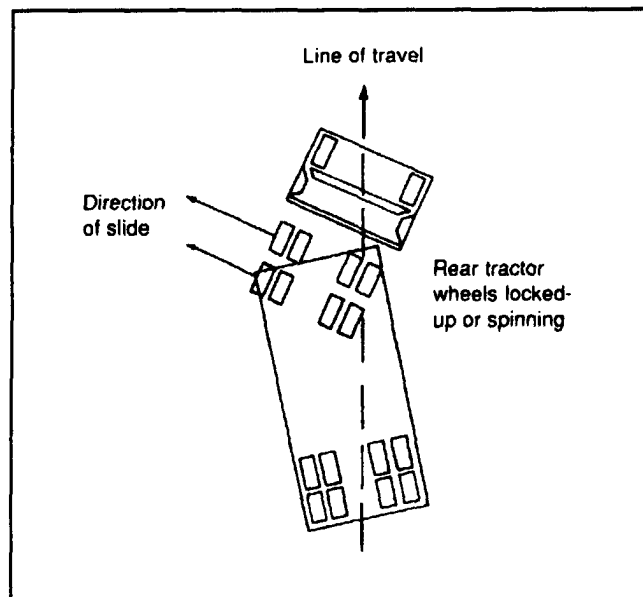

Figure 6-2. Tractor jackknife
- Control your speed whether fully loaded or empty. Empty, large combination vehicles take longer to stop than fully loaded ones. When lightly loaded, the very stiff suspension springs and strong brakes give poor traction. The wheels lockup very easily. Your trailer can swing out and strike other vehicles. Your tractor can jackknife very quickly (Figure 6-2, page 6-3). Drive bobtail tractors (tractors without semitrailers) very carefully. Bobtails can be very hard to stop smoothly. They take longer to stop than a tractor-semitrailer loaded to maximum gross weight. In any combination vehicle (rig), allow lots of following distance and look far ahead. so you can brake early. You do not want to be surprised and need to stop in a panic.